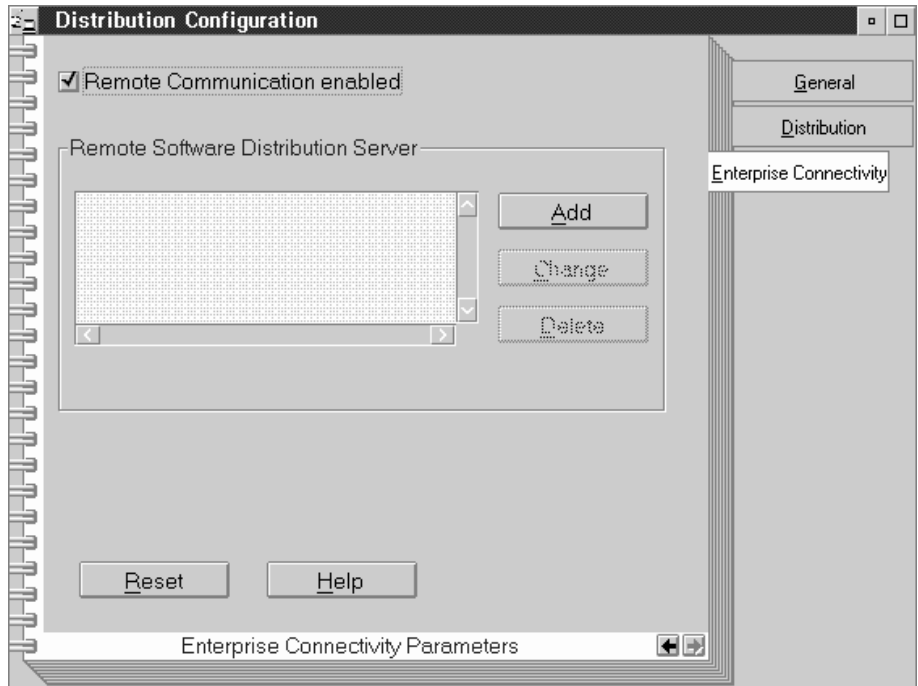

Figure 15. TME 10 Software Distribution Enterprise connectivity parameters
- 9** If you plan to connect to NetView DM for MVS or TME 10 Software Distribution for AIX, use the last page of the Distribution Configuration notebook to select parameters related to enterprise connectivity, as shown in Figure 15 on page 60.